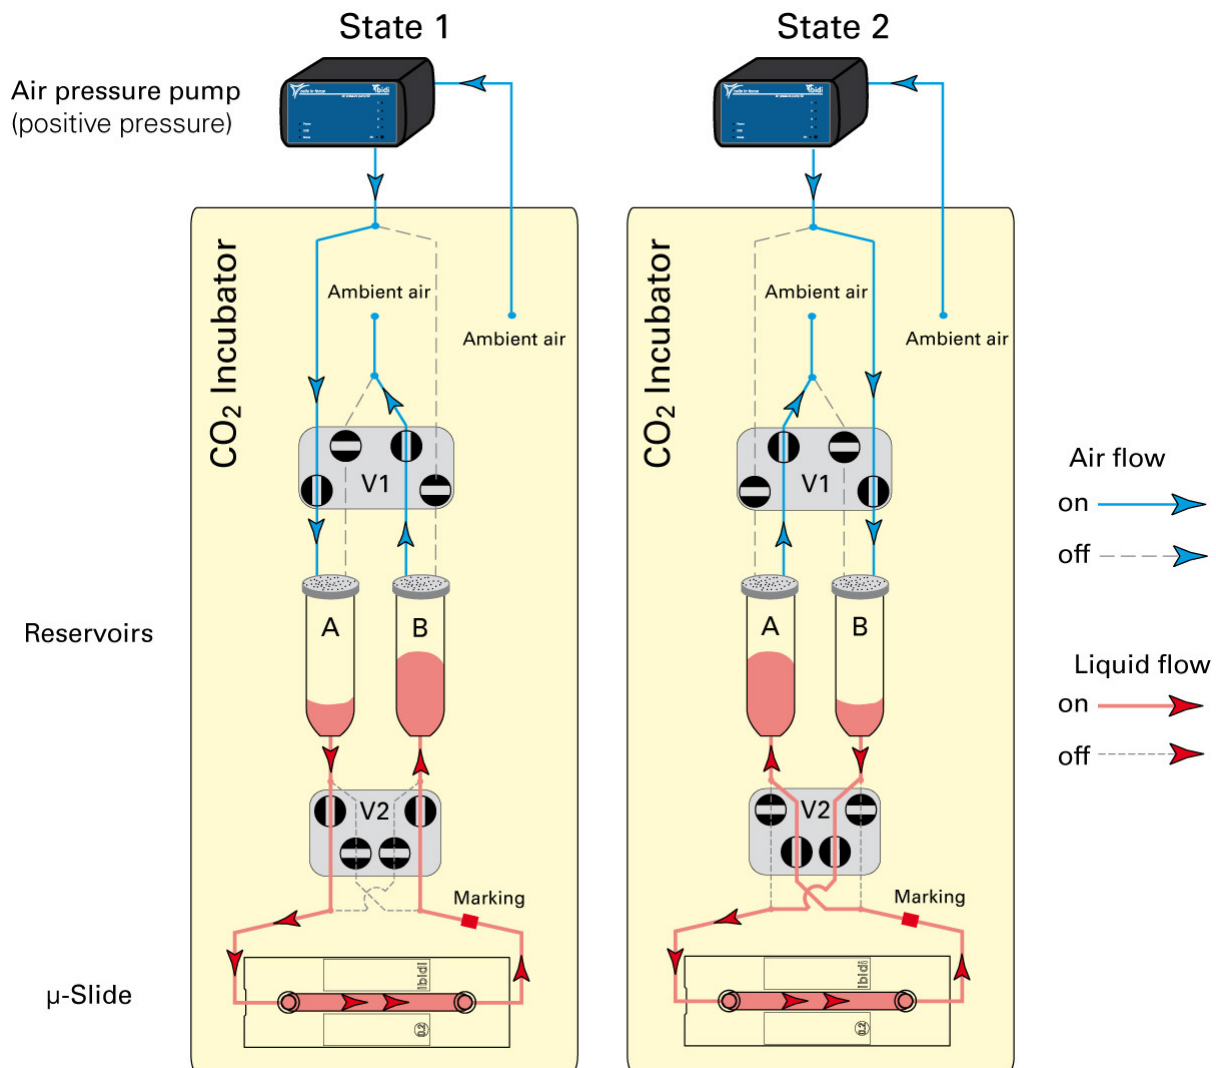
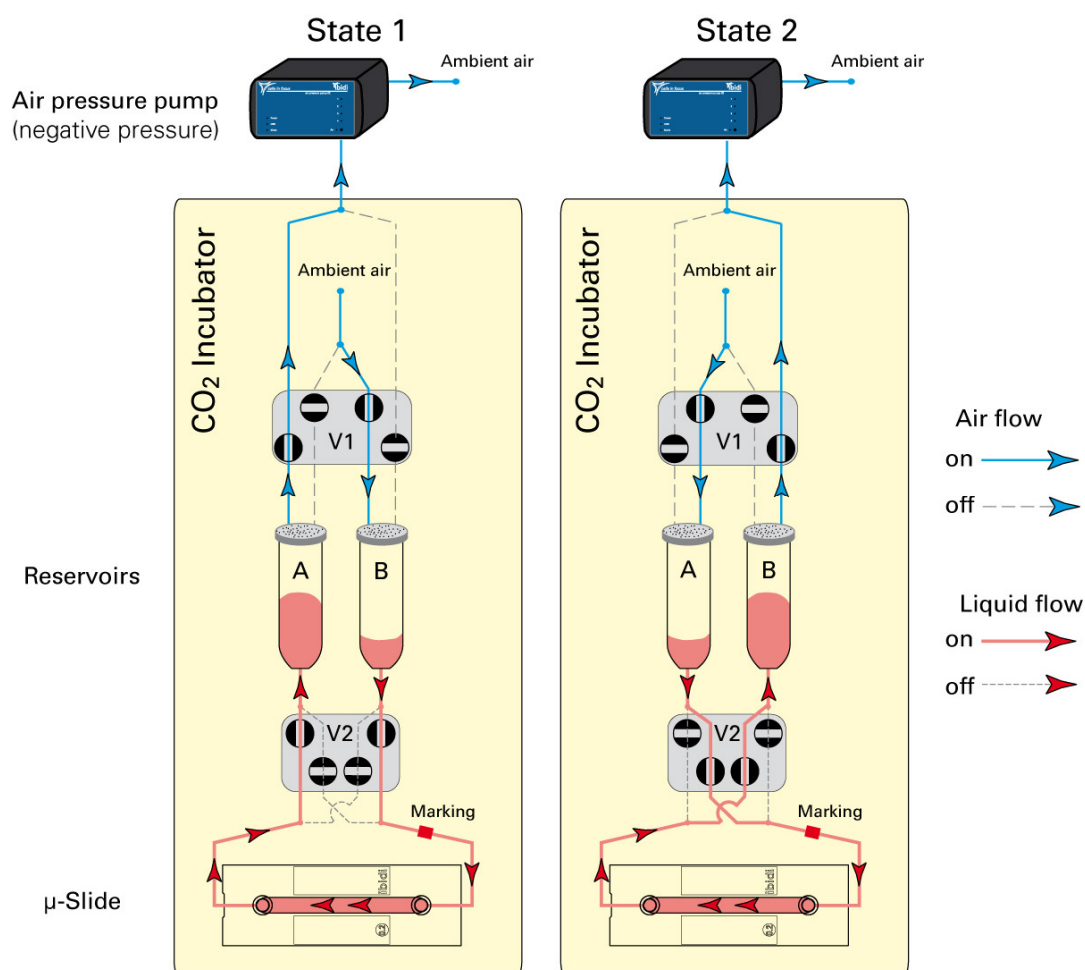

Figure 2: Working principle of the ibidi Pump system using positive pressure
Figure 3: Working principle of the ibidi Pump using negative pressure
In order to have minimal consumption of medium, the liquid is pumped back and forth between two media reservoirs of the Fluidic Unit. The setup is shown in Figure 2 and Figure 3.
function as a fluidic rectifier. The valve (V2) is always in a state that one of the two branches of the tube coming from the reservoirs is open and the other is pinched off. In State 1, the flow is running from reservoir (A) through the tube branch which is open to the left unmarked tube connecting the μ -Slide as indicated Figure 2. The branch, which is connected to the marked side of the slide, is pinched off. This way the medium is pressed through the μ -Slide from left to right. On the right side the tube branching and the pinch valve (V2) are set such that the open tube is connected to reservoir (B).
In State 2 of Figure 2, valve (V1) is set such that the pressure, which is remaining constant, is directed to the reservoir (B). The liquid is exiting reservoir (B) into reservoir (A). The pinch valve (V2) is now in the opposite state and pinching off the first branch leaving the second open. Again, this results in the medium flowing from the unmarked to the marked tube from left to right. As valve (V2) is in the opposite state, the liquid can now flow into the reservoir (A). This way we create unidirectional flow.
If the system is run with negative pressure, the pump system principle remains the same. However, the flow reverses the direction as shown in Figure 3. The use of permanent negative pressure is not recommended.